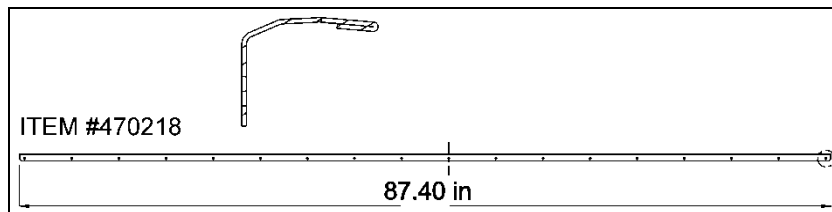

FIGURE 17: H3 SERIES UPPER DRIP EDGE
1. Identify drip edge #470218 and #470219 (FIGURE 17 & FIGURE 18).